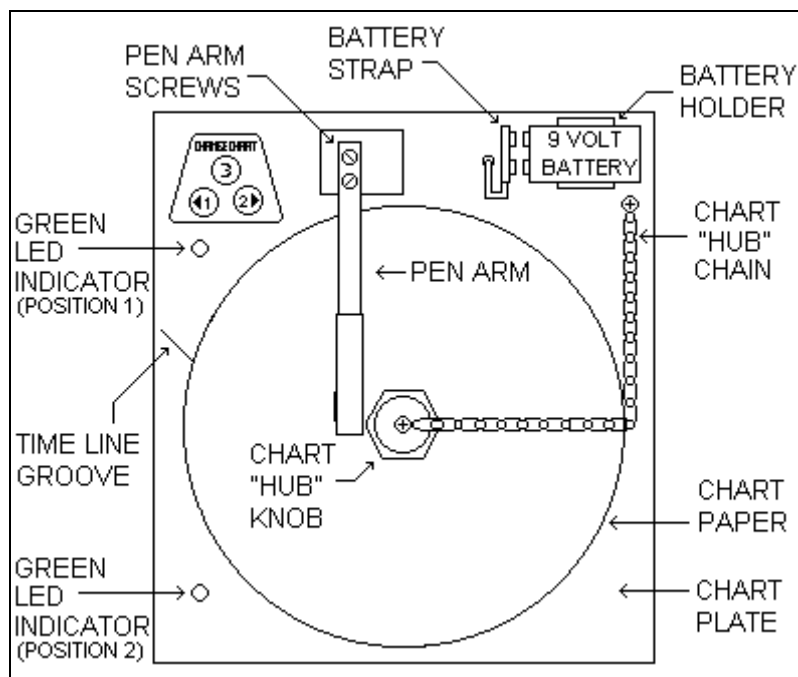

Figure 5: Recorder Assembly (Front View).
Press and hold the "change chart" button (#3) for approximately one (1) second until the pen begins to move to the left of the chart and then release the button. Wait until the pen has moved completely off of the chart. To remove the chart paper, unscrew (counter-clockwise) the chart "hub" knob at the center of the chart. Remove the old chart paper and position the new one so that the correct time line coincides with the time line groove on the chart plate. Refer to Figure 5 for the location of the time line groove.
For ease of replacement, it is suggested that the two (2) screws that hold the pen arm be loosened and the pen cartridge and metal pen arm be removed as an assembly. Refer to Figure 5 for the location of the pen arm screws. Unsnap the plastic "U" clip tab of the pen cartridge from the metal pen arm, remove and discard the old pen cartridge. Replace the new cartridge by opening the hinge and snapping it securely around the metal pen arm. Refer to the following figure.
The green LED light remains a constant green color indicating that both the battery and the main power to the unit are good. Refer to Figure 5 for the location of the green LED indicating light. If the AC power were to fail or the battery becomes weak, then the green LED light will begin "flashing" indicating that either you have lost the main power to the unit or it is time to replace the battery. Having a 9 volt DC battery back-up in place, will allow the recorder to continue to function normally for approximately 24 hours in the event of a power failure.
To replace the battery, first open the recorder door. The battery will be located in the upper right hand corner of the unit. Refer to Figure 5 for the location of the battery. **Note:** Use only NEW 9 volt alkaline replacement batteries.